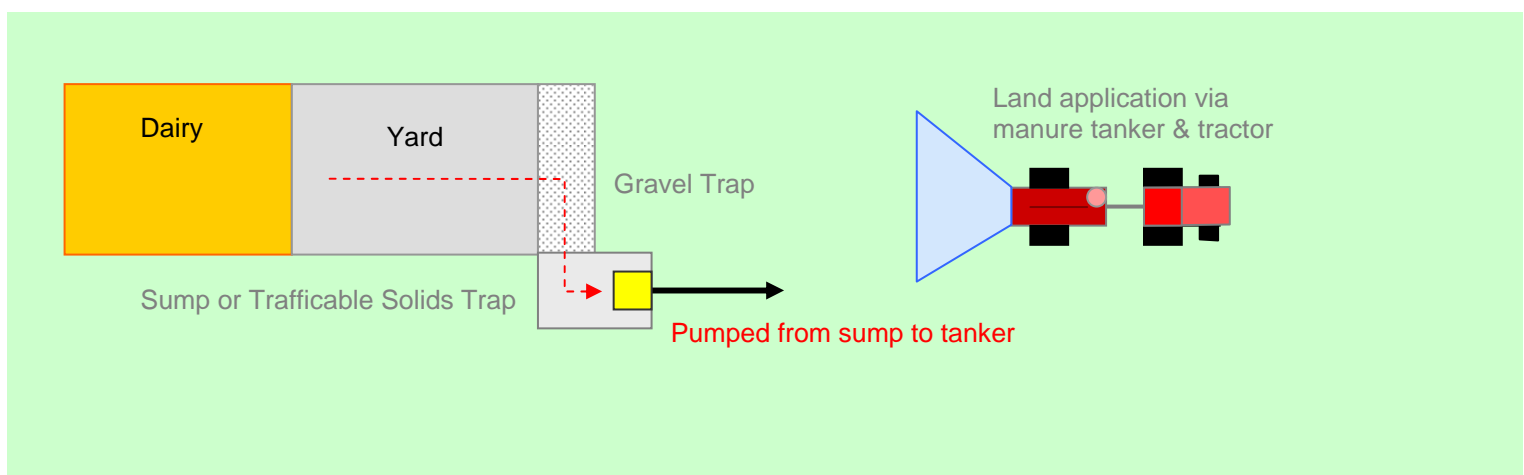

Figure. 1: Some methods of applying untreated effluent directly to land on a daily basis
- Applying effluent directly to land from the dairy yard or feedpad provided that there is minimal risk of pollution (Figure 1).